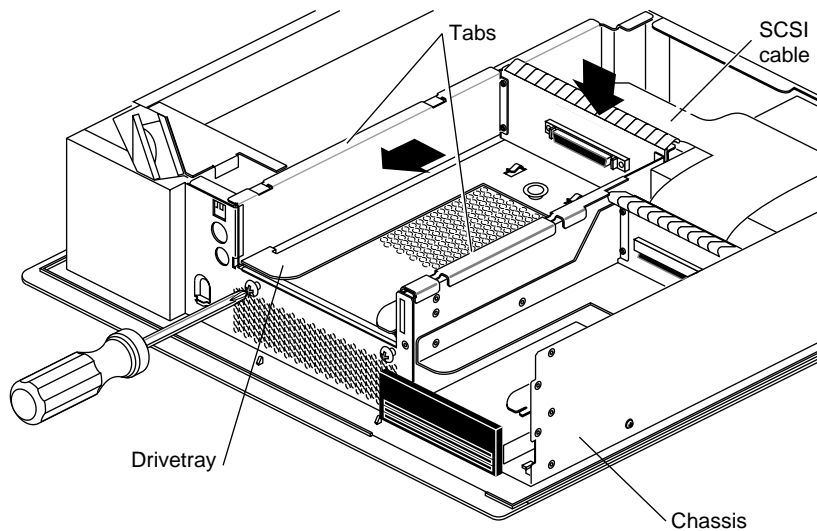

Figure 9-30 Replacing the 5-1/4" Drive Tray
3. Replace the drive tray if you removed it. See Figure 9-30.